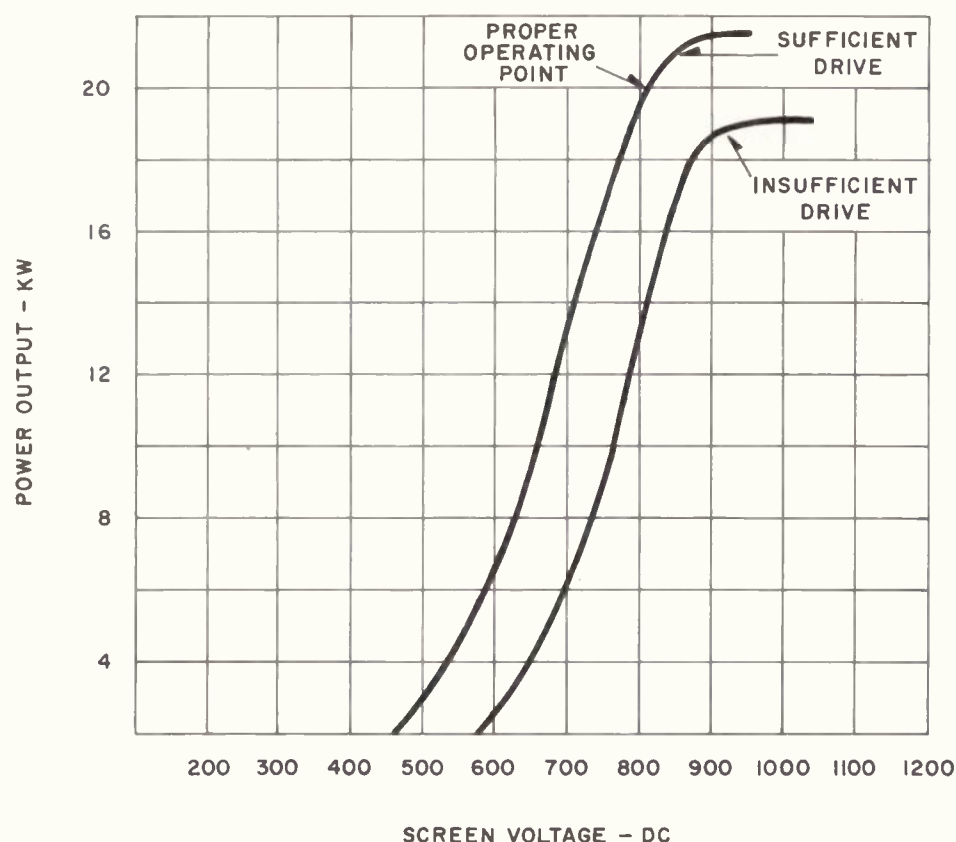

Figure 10. PA Screen Voltage/Power Output Curve
6. If PA efficiency is low and screen current comparatively low, the loading is too heavy and the load impedance must be increased as previously described. Reset 1L106 first, then 1L105. If PA efficiency is low and screen current comparatively high, the loading is too light and must be increased as previously described. Reset 1L106 first, then 1L105. In either case, after each loading adjustment, readjust PA PLATE TUNING control 1L105 for maximum power output (refer to figure 10).
NOTE: Power output of the transmitter is proportional to the screen voltage, but at a certain point the output will not increase further in spite of a further increase in screen voltage. Care should be taken not to operate beyond this point since PA efficiency will decrease rapidly if screen voltage is raised further. With sufficient drive, the tapering-off should occur at a power output in excess of 20 kilowatts at a screen voltage of about 800 volts. However, insufficient drive may cause this point to shift to power levels less than rated power output. See figure 10.